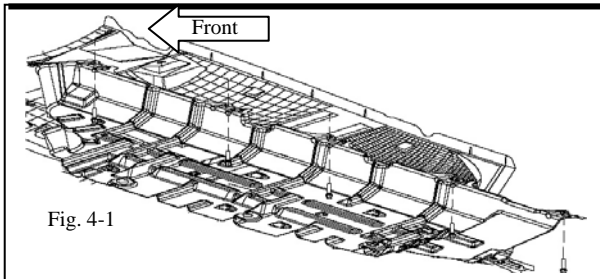

Fig. 4-1
(b) Remove passenger plastic under cover. Use 10mm socket to remove screws (6) first, then use 6mm allen key to detach plastic retainers (3). Note: Save hardware for re-installation of plastic under cover. (Fig. 4-1 & 4-2).